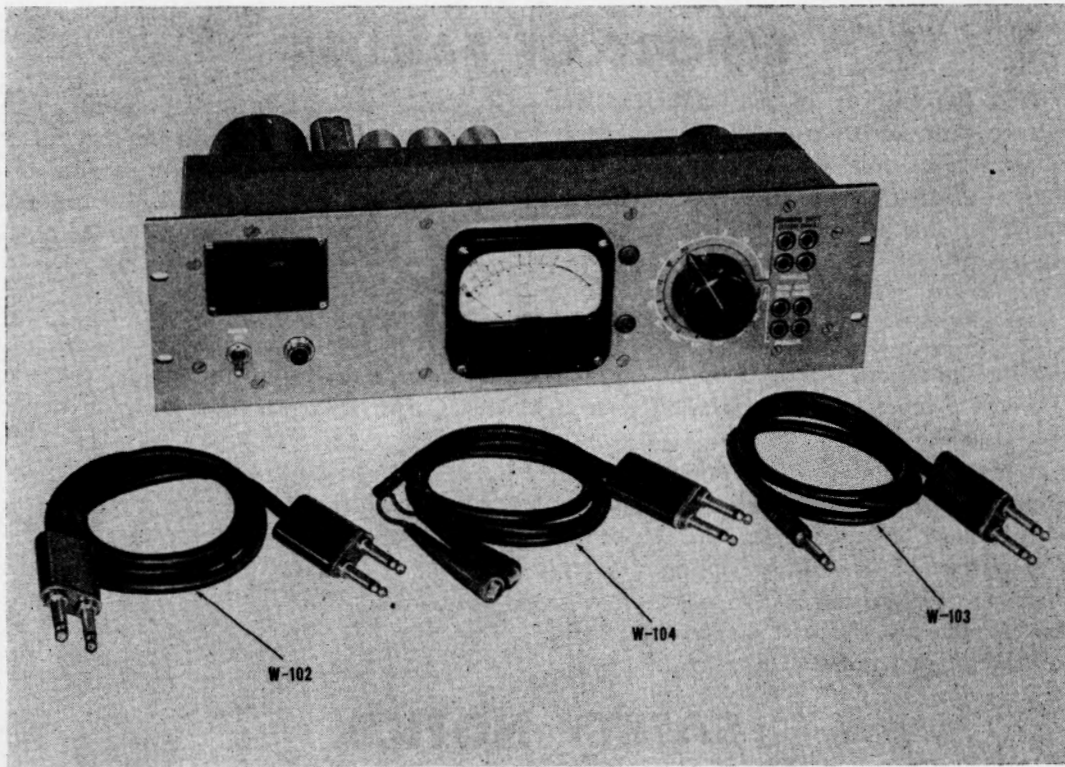
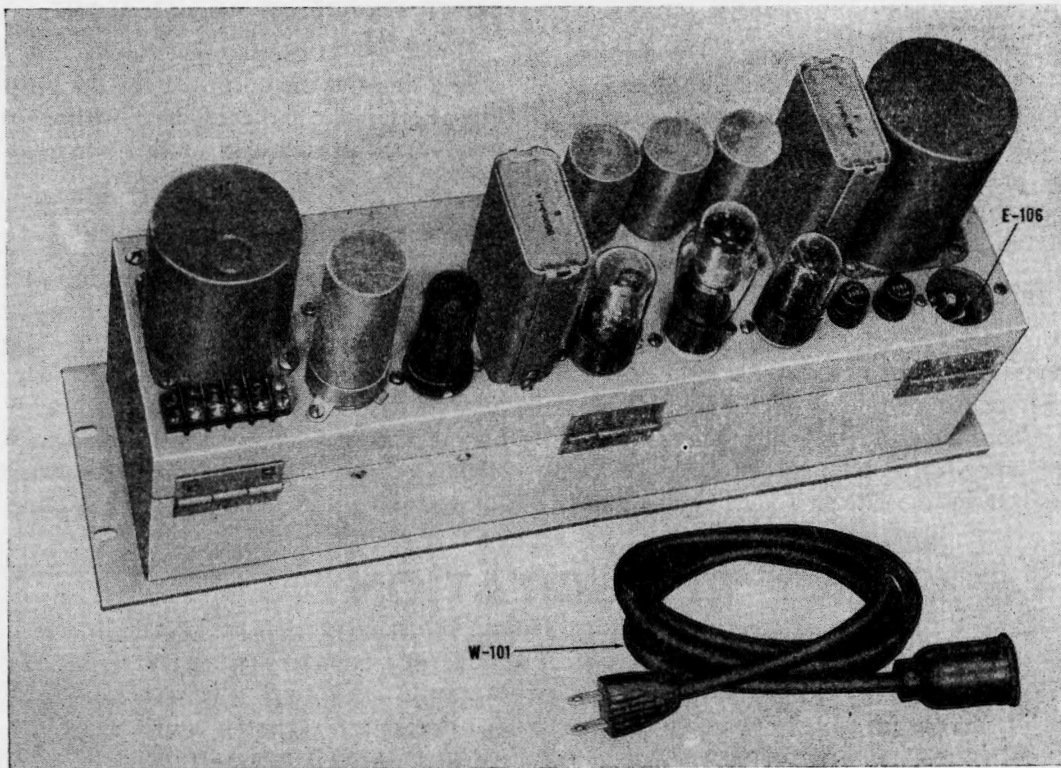

Figure 1-1. Audio Level Test Panel, TS-629A/U
Figure 1-2. Audio Level Test Panel, TS-629A/U, Rear View
Figure 1-1 is a front view of the Audio Level Test Panel TS-629A/U with three patch cords. Figure 1-2 is rear view with power cord. All electrical components are impregnated and insulated for satisfactory operation under conditions up to 90% relative humidity.
b. CONNECTION. Use the A.C. power cable W-101 to connect equipment to any 60 cycle, 105-120 volt source (Fig. 1-2). Connection is made to power receptacles E-106 located on rear of panel (Fig. 1-2). Cables W-102, W-103, W-104, are used for connecting to Bridging and Terminating Jacks (Fig. 1-1).